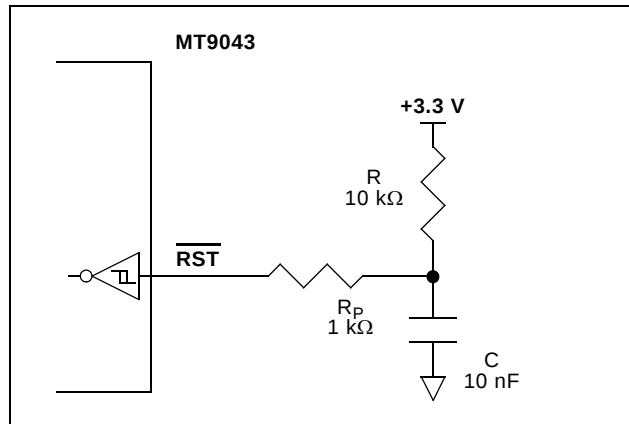

Figure 10 - Power-Up Reset Circuit
A simple power up reset circuit with about a 50 μs reset low time is shown in Figure 10. Resistor R_P is for protection only and limits current into the $\overline{RST}$ pin during power down conditions. The reset low time is not critical but should be greater than 300 ns.
* See Figure 10.